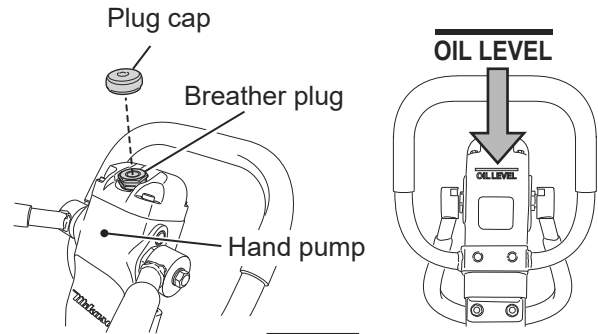

Fig.44
Check the hydraulic oil at every 100 hours' operation. Keeping the handle at the operating position, remove the breather plug at the top of the hydraulic hand pump to see if the hydraulic oil is at the specified level (OIL LEVEL). (Fig. 44)
- 1 Remove the plug cap of the hand pump. Then remove the breather plug (with 24mm wrench) before removing the hydraulic hose connected to the cylinder on the vibrator side. Set the control lever to forward, then drain the hydraulic oil from the pump. (Fig.44, 45)
- 3 Pour hydraulic oil (300cc) from the hand pump breather plug attachment hole. (Fig.44)